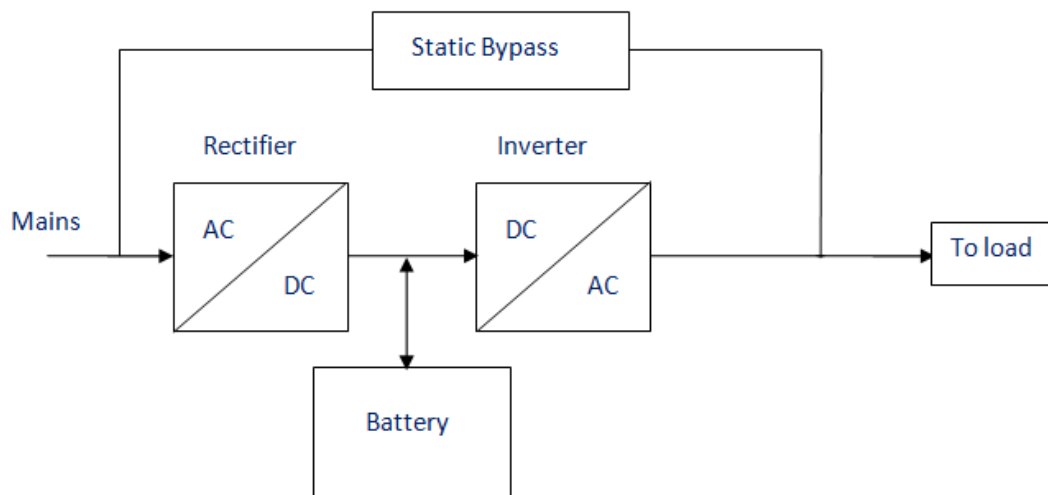

Figure 2
**On-line UPS:** In this type of UPS, double conversion method is used. Here, first the AC input is converted into DC by rectifying process for storing it in the rechargeable battery. This DC is converted into AC by the process of inversion and given to the load or equipment which it is connected (figure 2). This type of UPS is used where electrical isolation is mandatory. This system is a bit more costly due to the design of constantly running converters and cooling systems. Here, the rectifier which is powered with the normal AC current is directly driving the inverter. Hence it is also known as Double conversion UPS. The block diagram is shown below.